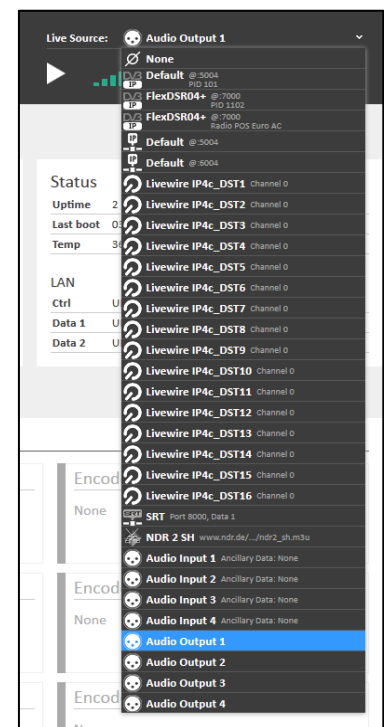

Figure 58: Live source choice
- a) In the “Live Source” field, select available configured audio sources for Streaming (see Figure 58).